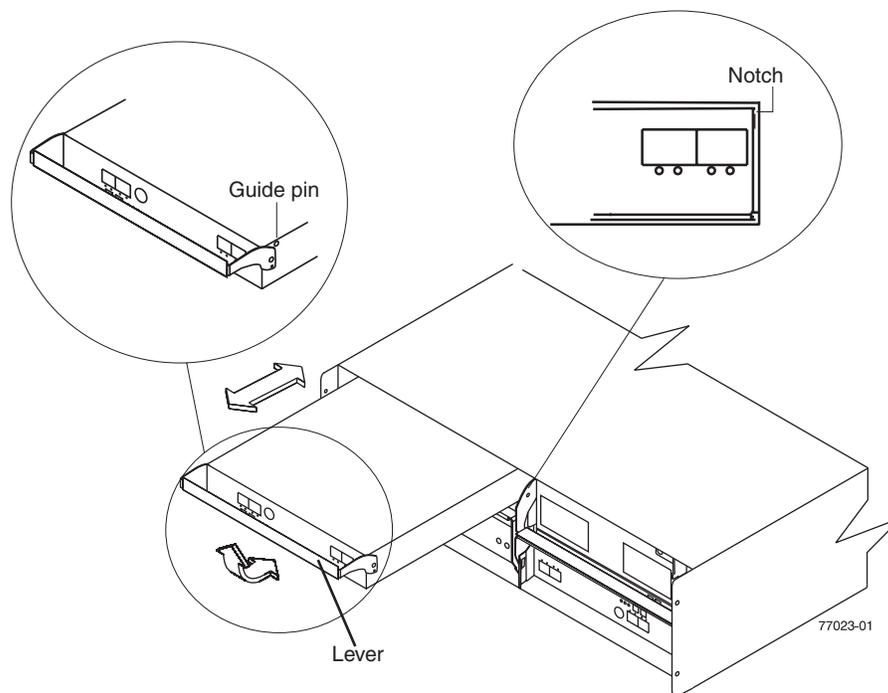

Figure 86. Installing a controller
- a. Slide one controller into the empty slot in the storage subsystem. Be sure that the lever is pulled straight out as you slide the controller in, as shown in Figure 86 on page 119.